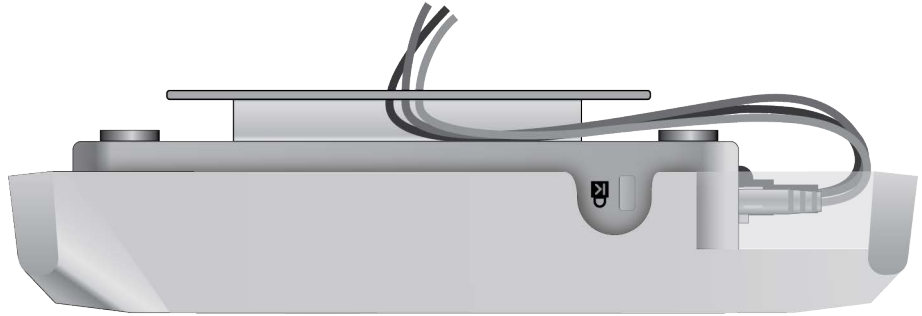

Figure 29. Fitting the Cables in the Cable Hide
4. Place the Ethernet cable(s) and power cable (if any) along the cable guides inside of the top cover in the cable hide space. See Figure 29.